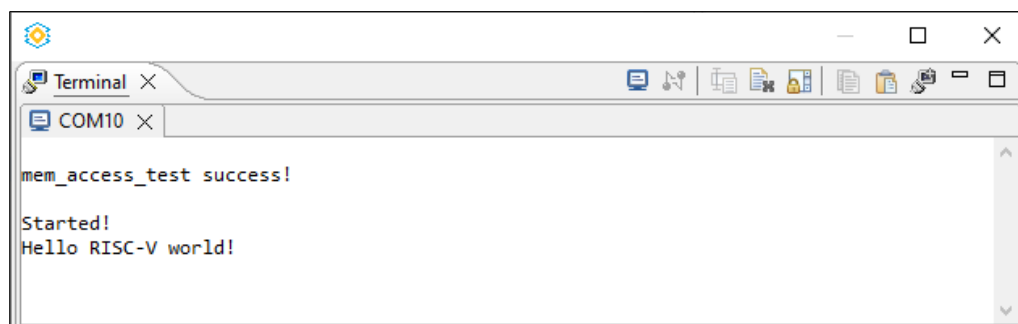
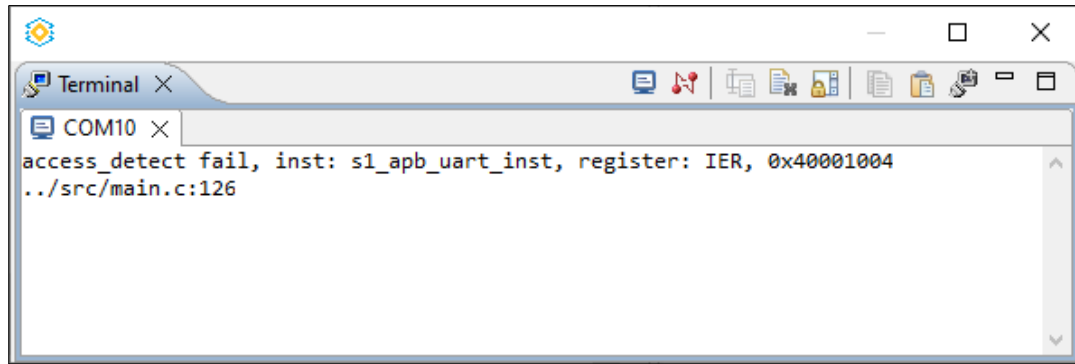

Figure F.6. Success Log
Figure F.7. Failure Log
4. Success log (Figure F.6) or failure log (Figure F.7) is shown.